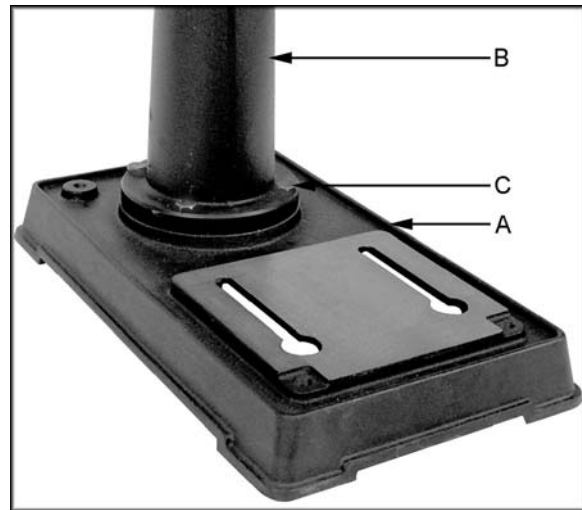

Figure 1
1. Place the base (A, Figure 1) on a level floor.
2. With a 17mm wrench attach the column assembly (B, Figure 1) to the base (A, Figure 1) with four M10 x 40 hex cap bolts (C, Figure 1). Tighten firmly.